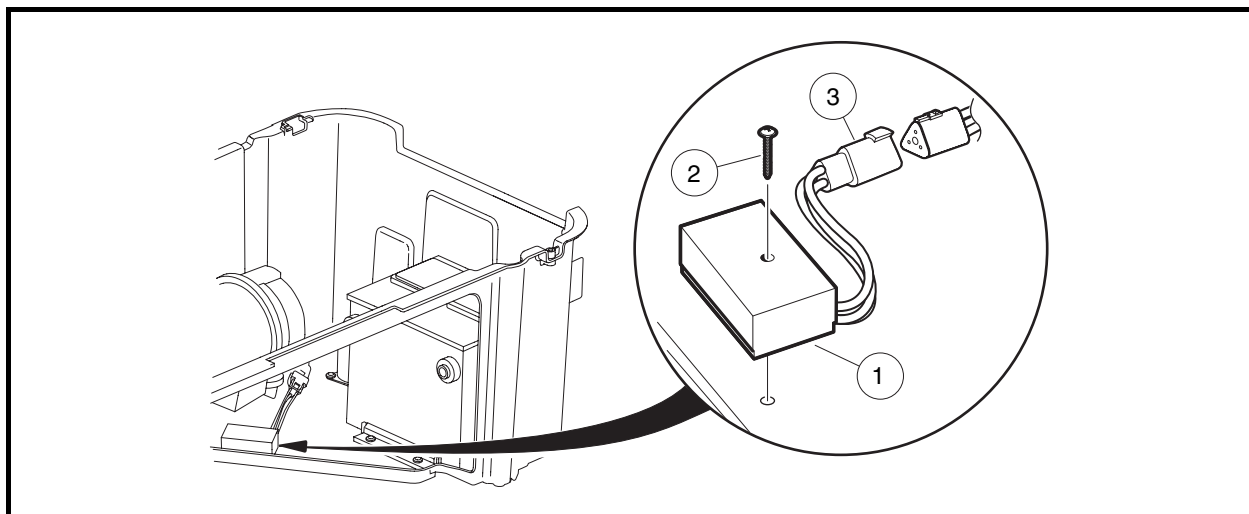

Figure 12-15 Voltage Regulator
2. Disconnect the voltage regulator connector (3) from the wire harness (**Figure 12-15, Page 12-12**).
3. Remove the voltage regulator mounting screw (2) and remove the voltage regulator (1).
1. Position the voltage regulator (1) and install the mounting screw (2) (**Figure 12-15, Page 12-12**). Tighten screw to 23 in-lb (2.6 N·m).
2. Connect the voltage regulator three-pin connector (3) to the wire harness.